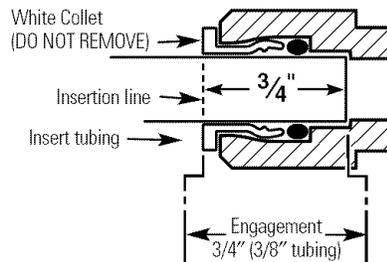

Fig. 11
- 3 Push the tubing firmly into each fitting on the manifold until the line is flush with the fitting collar. (If the tubing is removed, re-cut the end, measure, mark and re-insert). Tubing must be fully inserted to avoid leaks (Fig. 11). **(To remove tubing, depress and hold white collet; pull tubing out to remove.)**